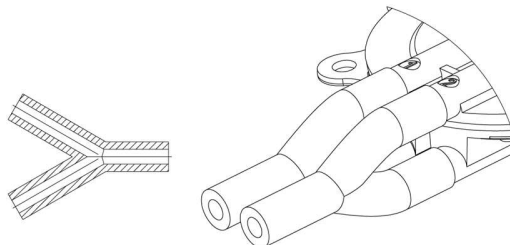

Figure 9 Y coupler for Parallel configuration pump.
- Ports 2 and 4 are the common inlet and should be linked – Y coupler provided in the kit as shown in Figure 9.
- Ports 1 and 3 are the common discharge and should be linked – Y coupler provided in the kit as shown in Figure 9.